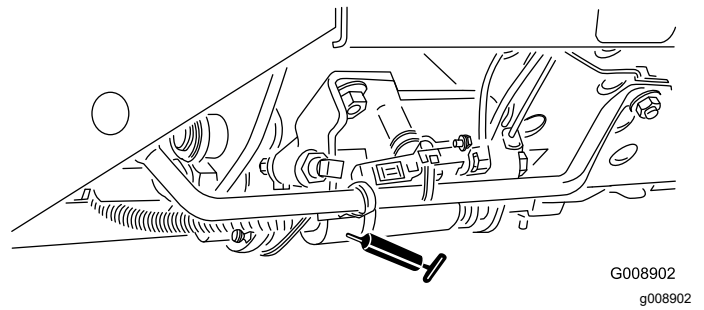

Figure 45
- Mow/transport slide (Figure 45)